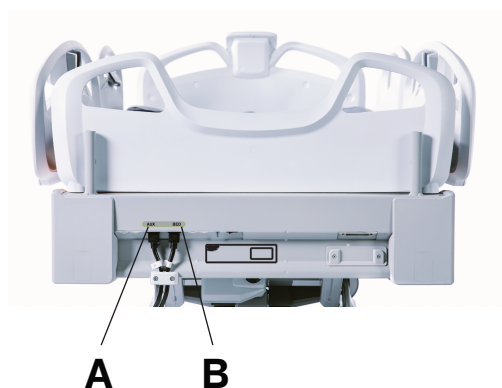

Figure 5 – Auxiliary and bed power cords
The product is equipped with two power cords, the auxiliary outlet cord (A) and the bed power cord (B) (Figure 5).